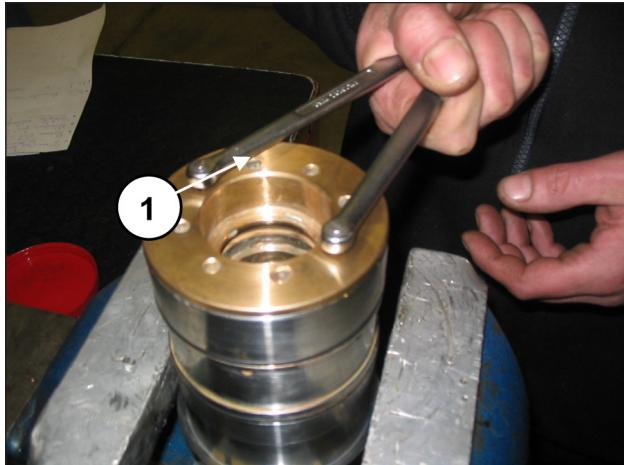

Fig. 145
Separate the gasket support from the liner by using a compass spanner with Ø5 round ends, available on the market (pos. ①, Fig. 145) and unscrew the support until it is completely removed (pos. ①, Fig. 146).